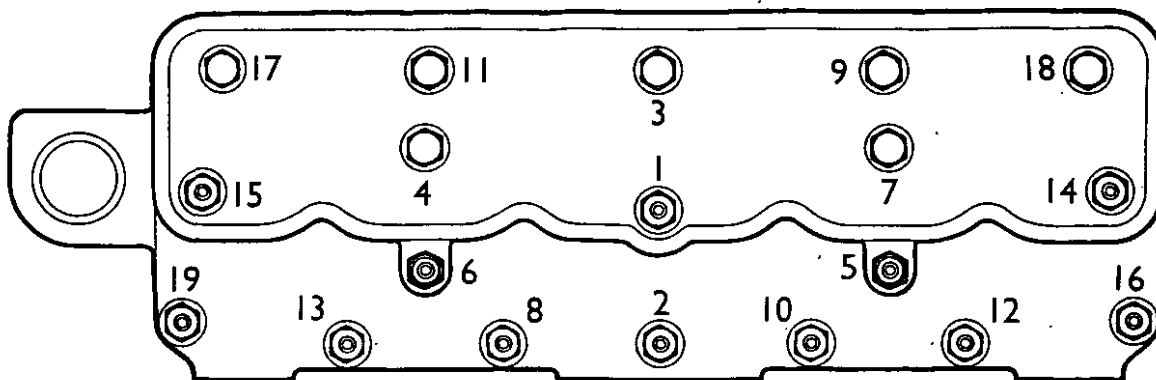

Figure 32. CYLINDER HEAD TIGHTENING SEQUENCE
5. Fit a new by-pass hose and lower cylinder head on to block. Following the tightening sequence shown in Fig. 32, progressively tighten down all head bolts and nuts in stages of 30, 60 and 90 lb ft (4, 8 and 12.5 kg metres).